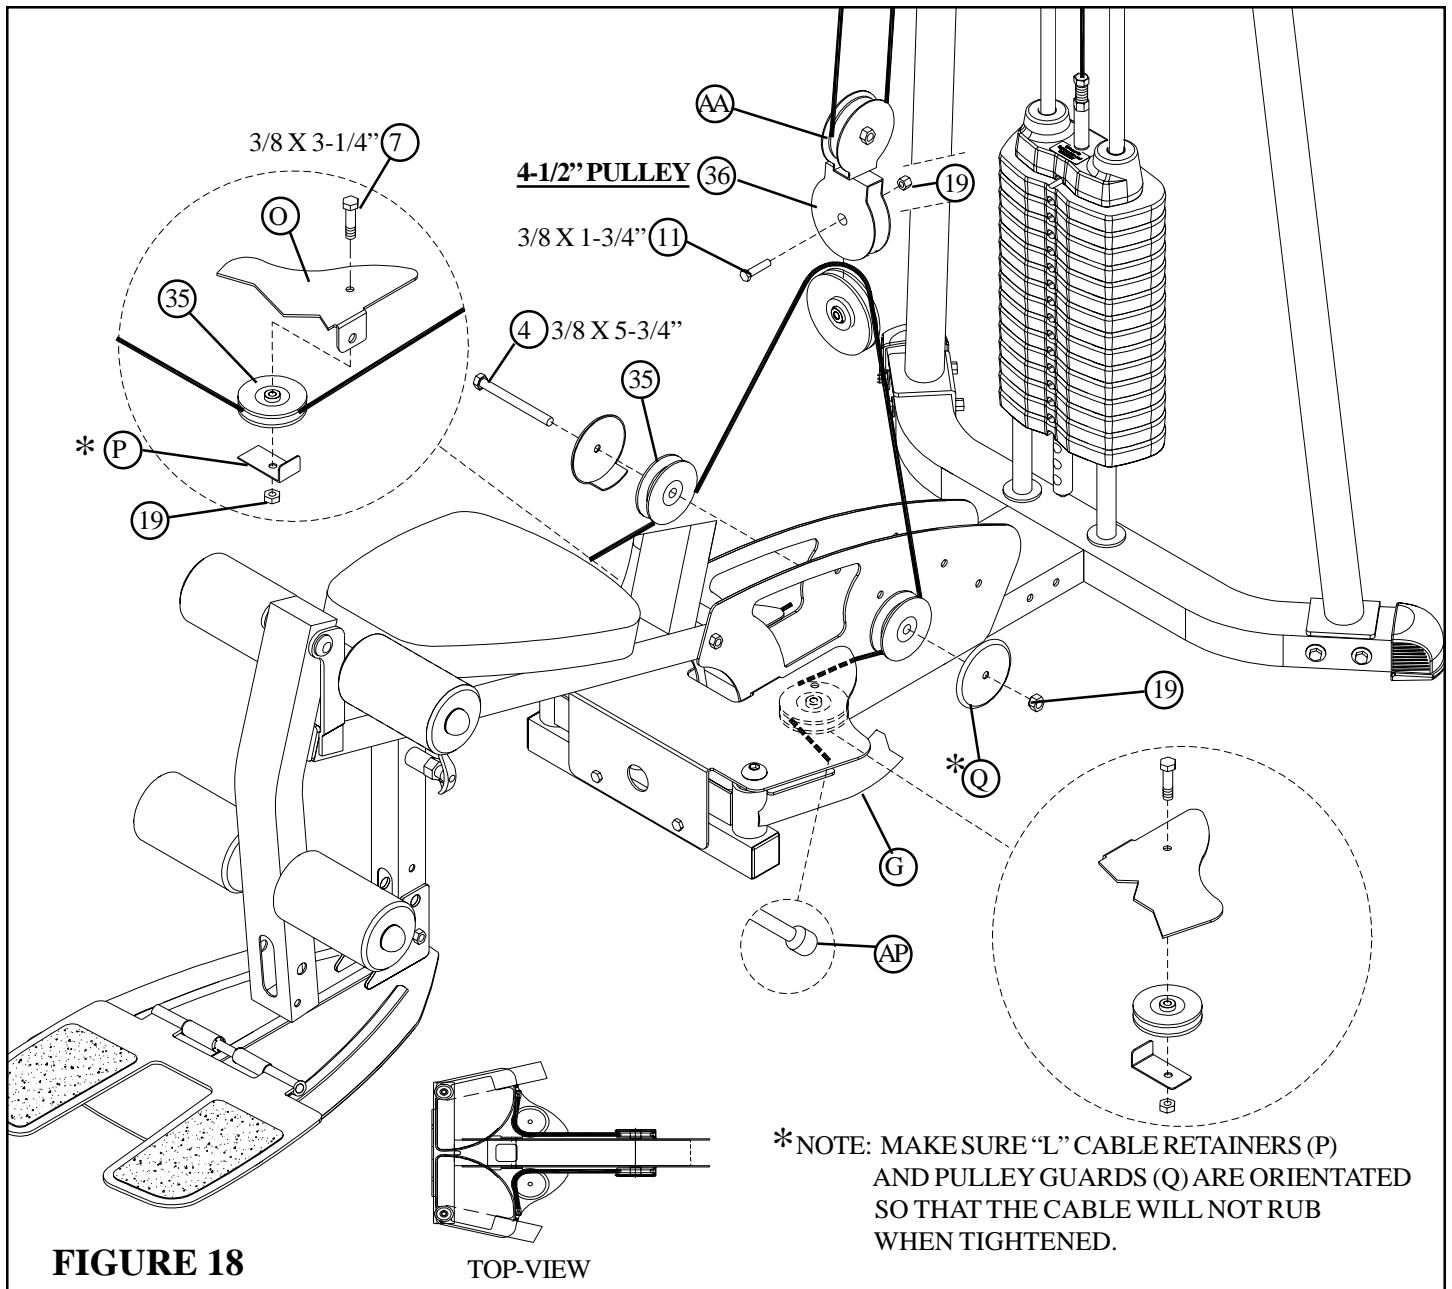

**FIGURE 17**
- Route the LAT CABLE (AM) around one **4-1/2" PULLEY** (36) and assemble the PULLEY to the LEFT (D) and RIGHT (E) BOOM PLATES using one 3/8 X 3-3/4" BOLT (6), one LONG "L" CABLE BRACE (S), one 1" SPACER (24) and one 3/8" LOCK NUT (19). See FIGURE 17.
- **SECURELY** assemble two PLASTIC SLEEVES (34) to the LEFT (D) and RIGHT (E) BOOM PLATES using two 3/8 X 3-3/4" BOLTS (6) and two 3/8" LOCK NUTS (19) as shown in FIGURE 17.
- Route the LAT CABLE (AM) around one 3-1/2" PULLEY (35) and assemble two FLOATING PULLEY PLATES (AB) to the 3-1/2" PULLEY (35) using one 3/8 X 1-3/4" BOLT (11) and one 3/8" LOCK NUT (19). See FIGURE 17. **(NOTE: Make sure the cable runs in the grooves of the pulleys.)**
- Route the LAT CABLE (AM) over two 3-1/2" PULLEYS (35) and assemble the PULLEYS to the LEFT (D) and RIGHT (E) BOOM PLATES using two 3/8 X 3-3/4" BOLTS (6), two SHORT "L" CABLE BRACES (R), two 15/16" SPACERS (24) and two 3/8" LOCK NUTS (19). See FIGURE 17.
- Screw the threaded end of the LAT CABLE (AM) into the end of the HEAD PLATE ASSEMBLY (AF) .See FIGURE 17.